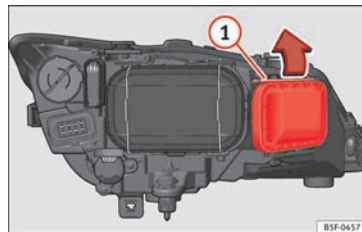

Fig. 106 Turn signal bulb.
- Move the loop » Fig. 106 ① in the direction of the arrow and remove the cover.